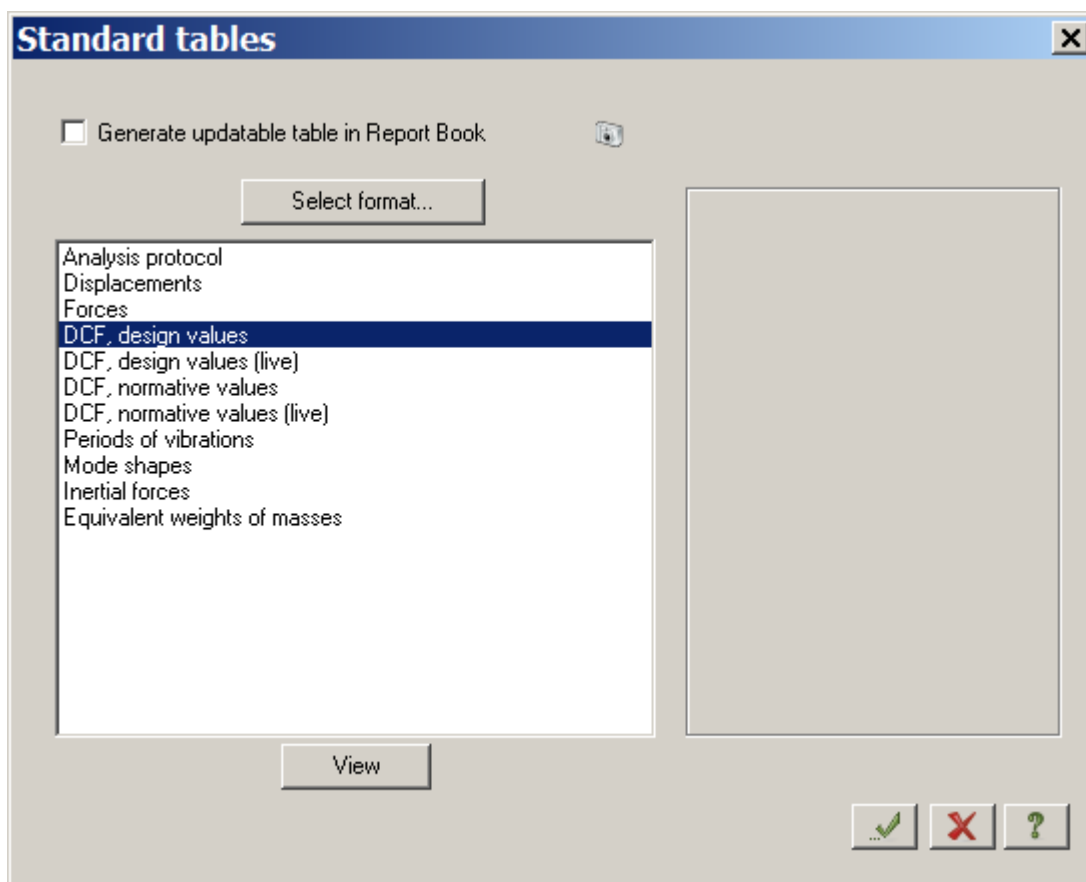

Figure 5.28 **Standard tables** dialog box
- ⇒ In the **Standard tables** dialog box (see Fig.5.28), select **DCF, design values** in the list.